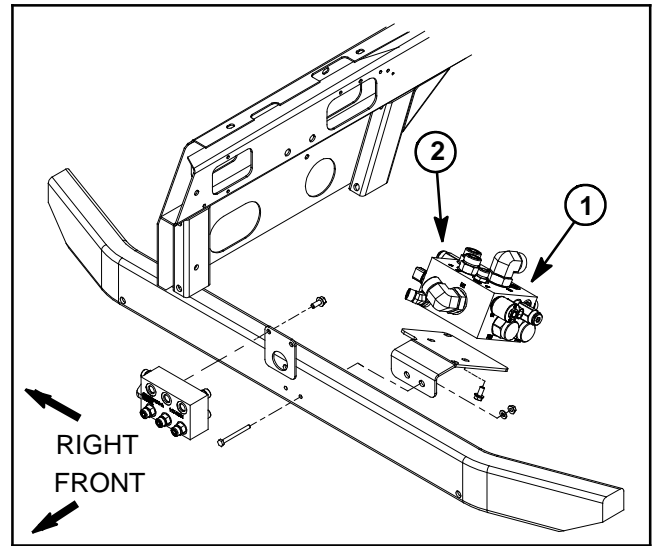

Figure 31
3. Connect a 1000 PSI (70 bar) pressure gauge to test fitting (port G) on rear side of 4WD/2WD control manifold under front of machine (Figs. 31 and 32).